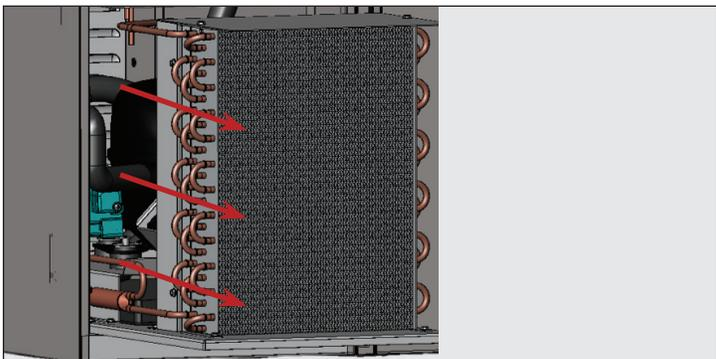

Fig. 7. Carefully slide the condensing unit out.
8. Carefully slide the condensing unit out (tubing connections are flexible). See fig. 7. Gently blow compressed air or CO₂ through the coil until it is clean.